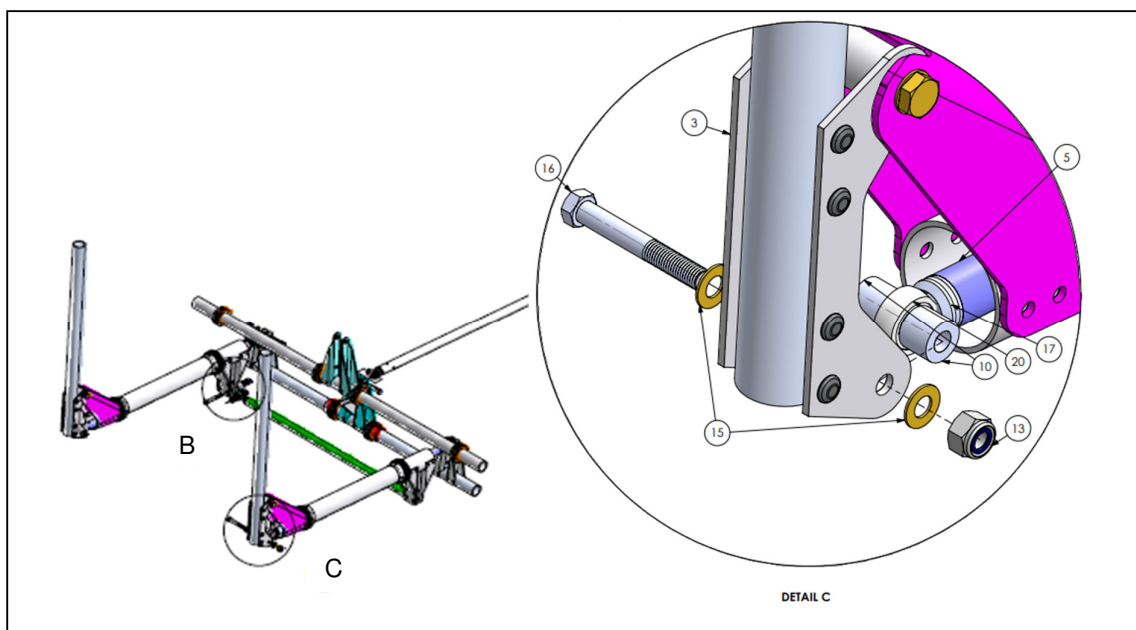

Figure 8: Eyebolt assembly, Detail C
- Step 4. To replace the eyebolts seen in Detail C of Figure 8, remove the AN4 locknut (13) and bolt (16). The eyebolt should now be uninstalled from the pushrod (5). A *type 1* or *type 2* eyebolt should then be installed on the pushrod.
- Step 5. Reassemble the eyebolt assembly, refer to Figure 8 for component placement.